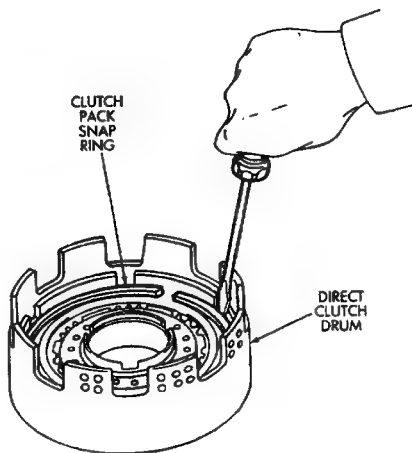

Fig. 6 Removing Clutch Pack Snap Ring
(7) Piston stroke length should be 1.37 mm to 1.60 mm (.0539 to .0642 in). If stroke length is incorrect, either the clutch pack retainer or clutch discs will have to be replaced.
(8) Compress clutch springs with tool B.Vi. FM. 27. Remove clutch pack snap ring and remove retainer and clutch pack from drum (Fig. 6).